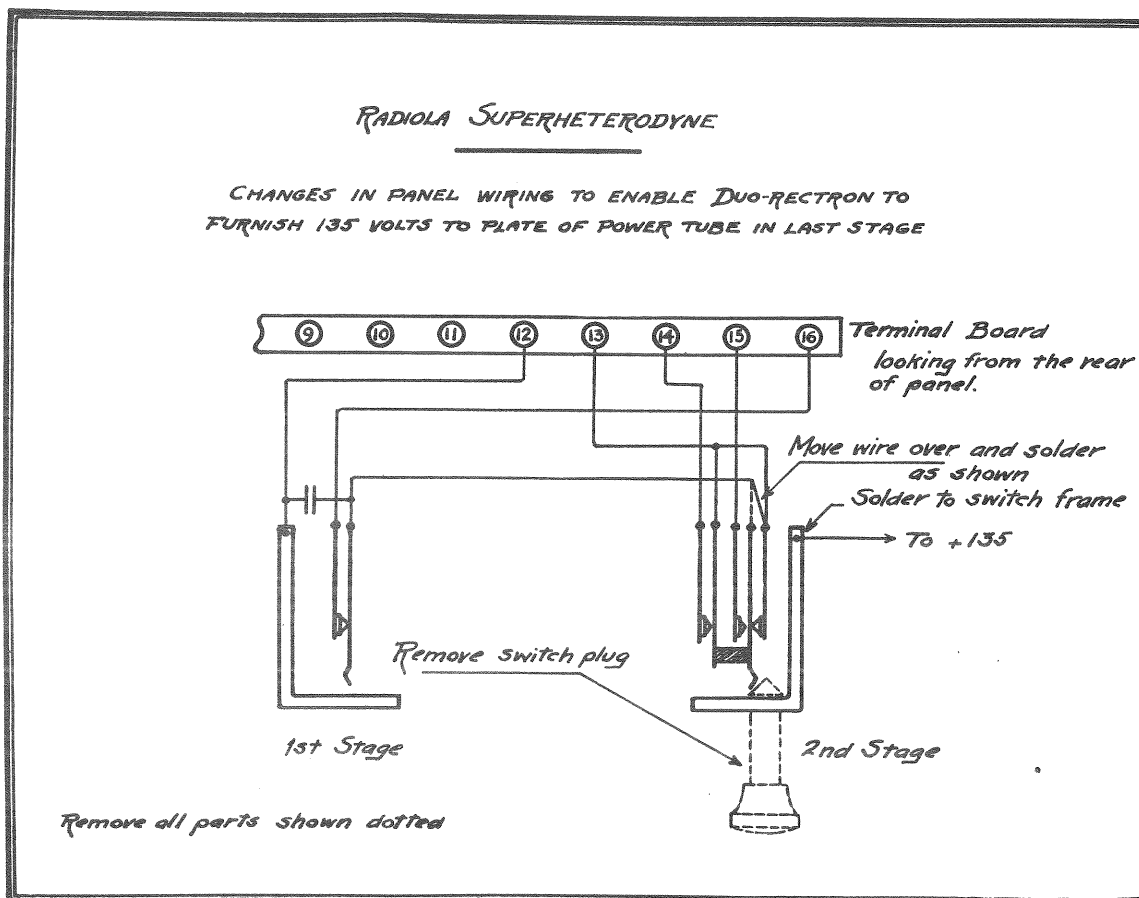

Figure 1
Figure 1 shows the alterations necessary in the Radiola Super-Heterodyne panel to take advantage of the 135-volt tap of the Duo-Rectron to supply the required plate voltage for Radiotron UX-120. A step by step procedure to effect the necessary changes is suggested as follows:
- (1) Tilt panel forward and release catch at right hand side permitting panel to be removed from cabinet.
- (2) Loosen screws on battery terminal strip allowing the latter to be removed.
- (3) Connect a short piece of wire between the +45 terminal and the -45 terminal of the UR-556 adapter.
- (4) Connect a 22½-volt "B" battery to the +22½ and -22½ "C" battery terminals of the UR-556 adapter. (This battery may be placed in one of the battery compartments.)
- (5) Remove switch plug. To do this, the small retaining split washer will first have to be removed with a small pair of pliers. The plug may then be readily pulled out.
- (6) Make the one wiring change shown by dotted line in Figure 1.
- (7) Solder an insulated wire to the switch frame (as indicated in Figure 1) and connect free end to the +135 terminal of Duo-Rectron.
- (8) Make other connections to the -B, +45 and +90 terminals of the Duo-Rectron in the usual manner as indicated in the Duo-Rectron Instruction Book No. 86996, Edition "C".